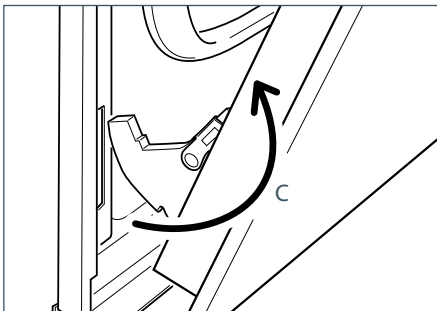

Fig.62e
- 5 Withdraw the hinge hooks from their location following arrow "C" (Fig. 62e).